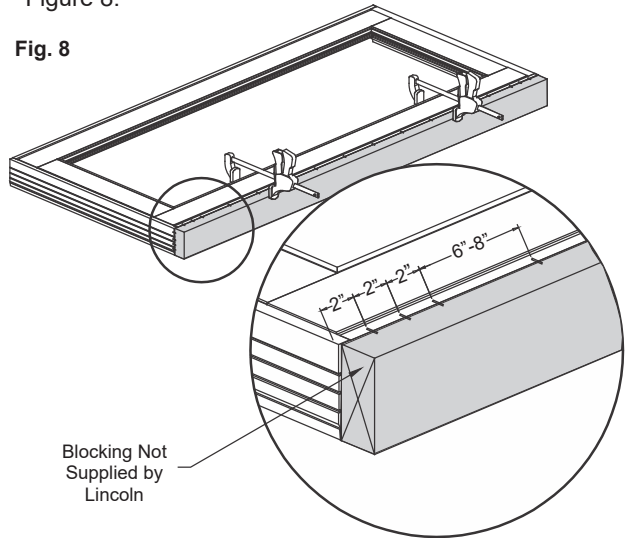

Fig. 8
7. Clamp spread mull blocking to the jamb of one unit. Make sure blocking is flush with interior frame surfaces. Fasten the blocking to the jamb with 5/8 x 3/4" staples. Place 3 staples on both ends approximately 2" from the edge of the frame and spaced 2" apart. Space the remaining staples 6-8" apart. See Figure 8.